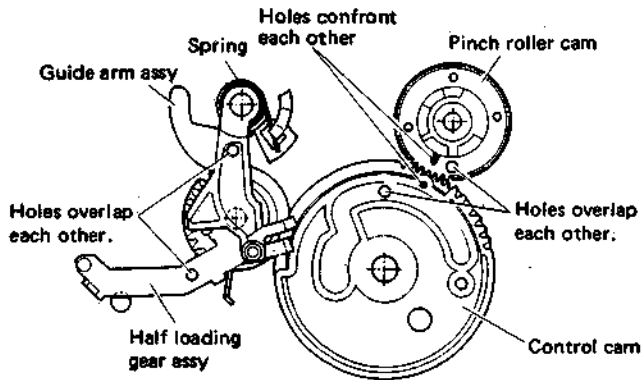

Fig. 1-1-6
1. On the main deck, observe the positional relationships of the parts indicated in Fig. 1-1-6.